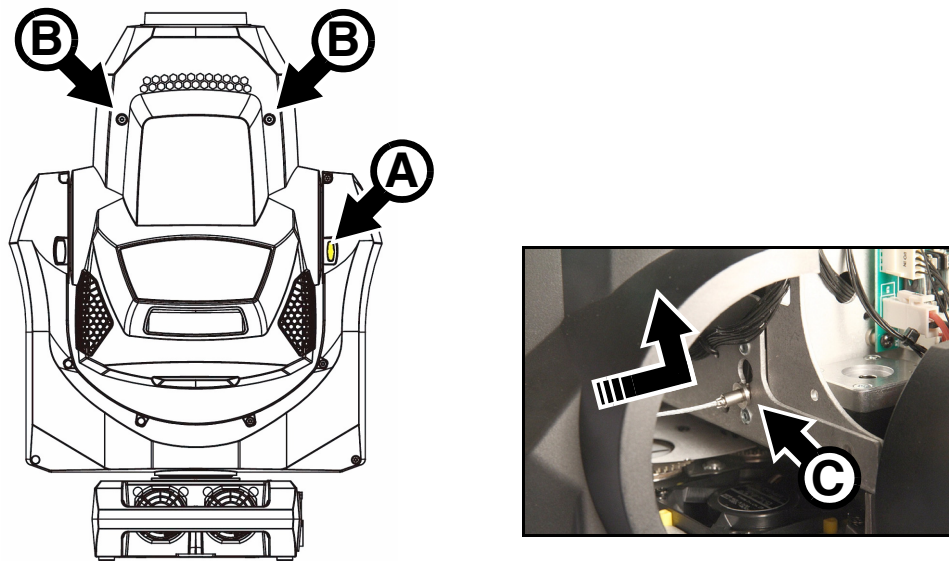

Figure 9: Removing the bottom head cover
3. See Figure 9. Position the yoke so that the tilt lock button **A** is on the right of the head. With the tilt lock button on the right, the bottom head cover is facing you. Apply the tilt lock.